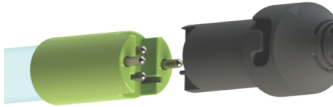

Figure 7a. Standard Output UV Lamp Connection
Step 13: Plug the LUMI-Loc™ lamp connector into the lamp. Note the keying for proper alignment (see Figure 7a, 7b). Insert the lamp connector into the gland nut and turn the connector approximately ¼ turn to lock the connector to the gland nut as in Figure 9.